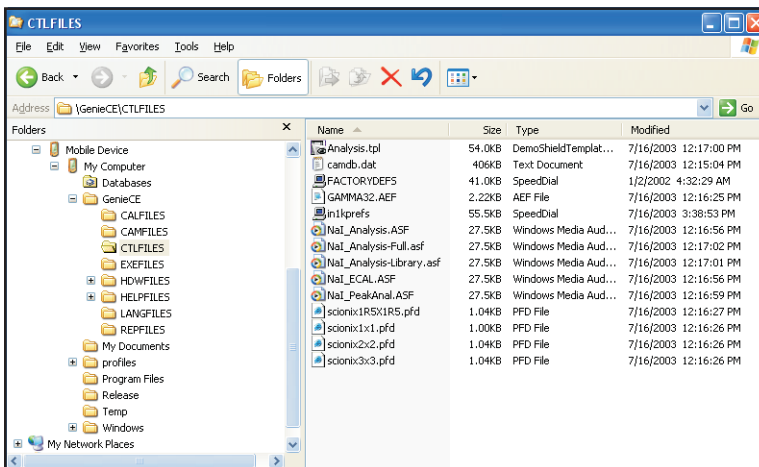

Figure 98 Directory Tree on the InSpector
2. Navigate to the folder **Mobil Device\My Computer\GenieCE\CTLFILES** using the Windows CE Explorer (Figure 98).